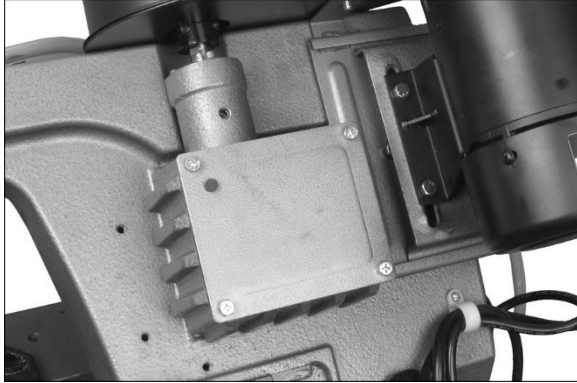

Figure 10-1: gearbox
- Remove control box and bracket to expose gearbox (Figure 10-1).
8. Remove vent plug (Figure 10-1) with 8mm wrench, and fill gear box with approximately 1/2 pint of 90W oil, through the hole. Reinstall vent plug.